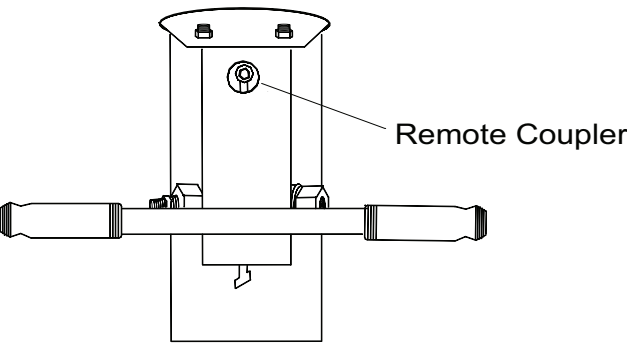

Figure 4 - End Lift rear coupler
- 1. Connect the supplied air hose to the coupler (ref. Fig 4) at the rear of the end lift.